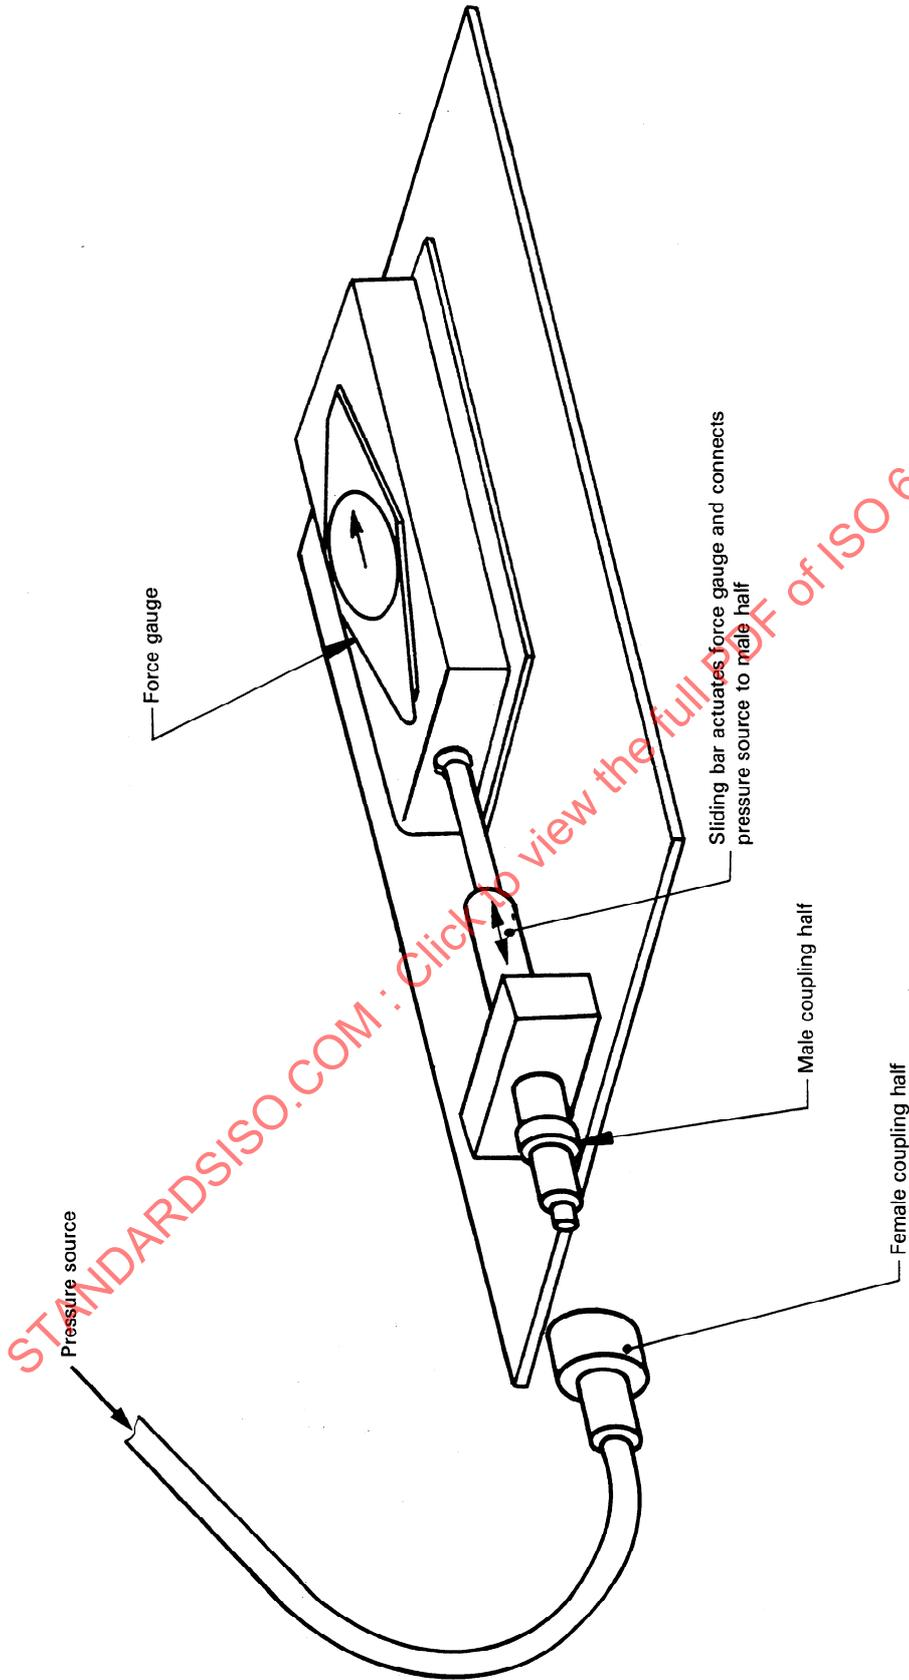

Figure 6 — Set-up for connect force test
**8.6.2.1** Insert the coupling in an appropriate test fixture (see figure 6).